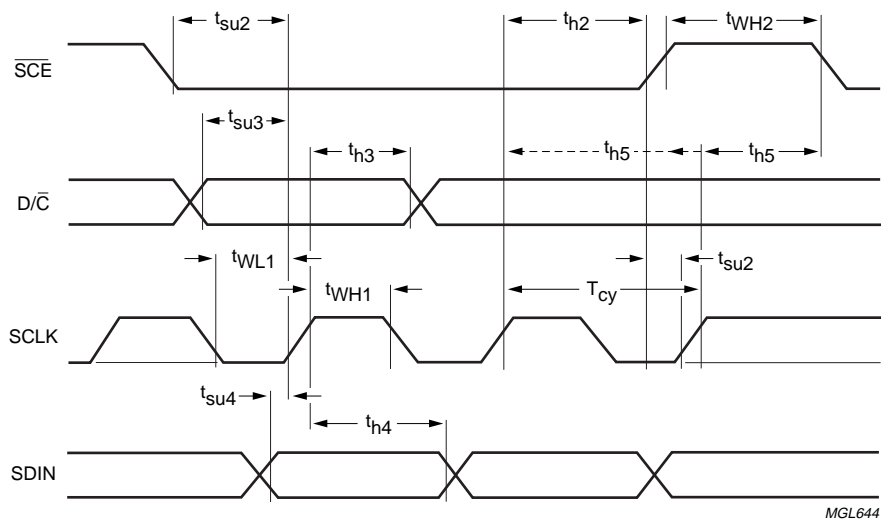

Fig.15 Serial interface timing.
3. t_{h5} is the time from the previous SCLK positive edge (irrespective of the state of $\overline{\text{SCE}}$) to the negative edge of $\overline{\text{SCE}}$ (see Fig.15).